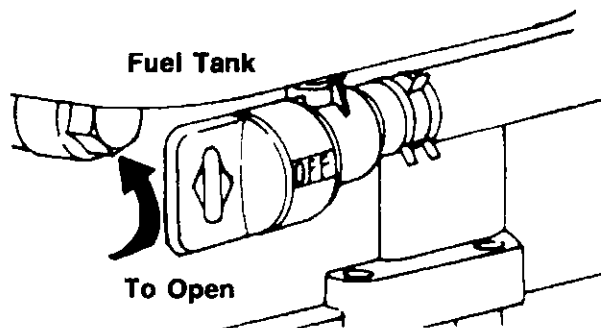

FIGURE 19.
2. Open fuel shut-off valve. See figure 19.